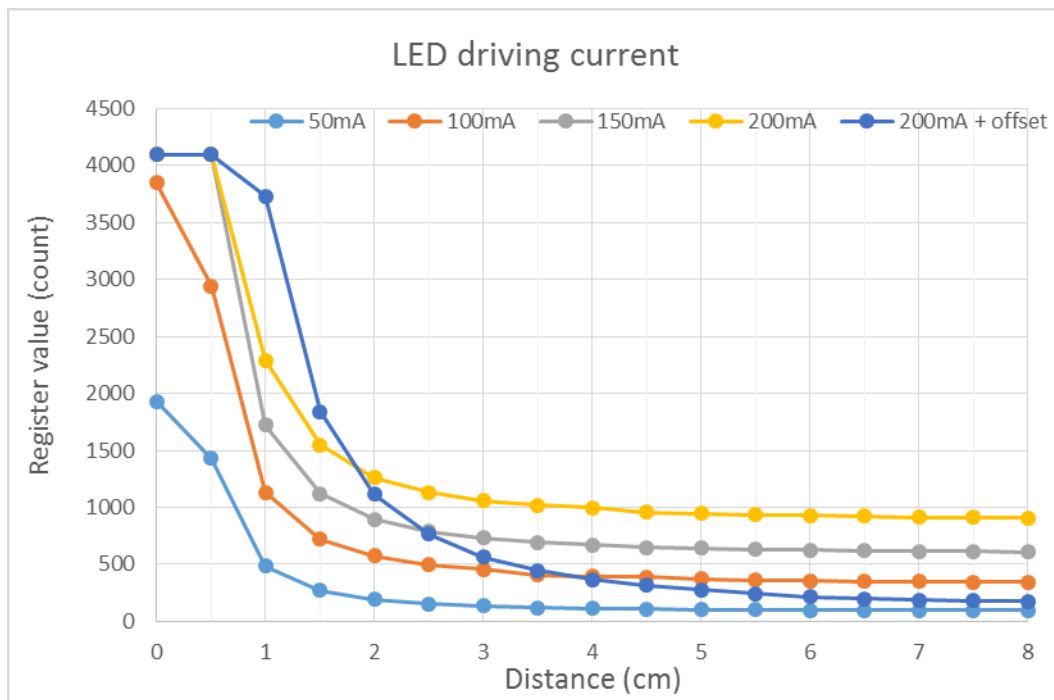
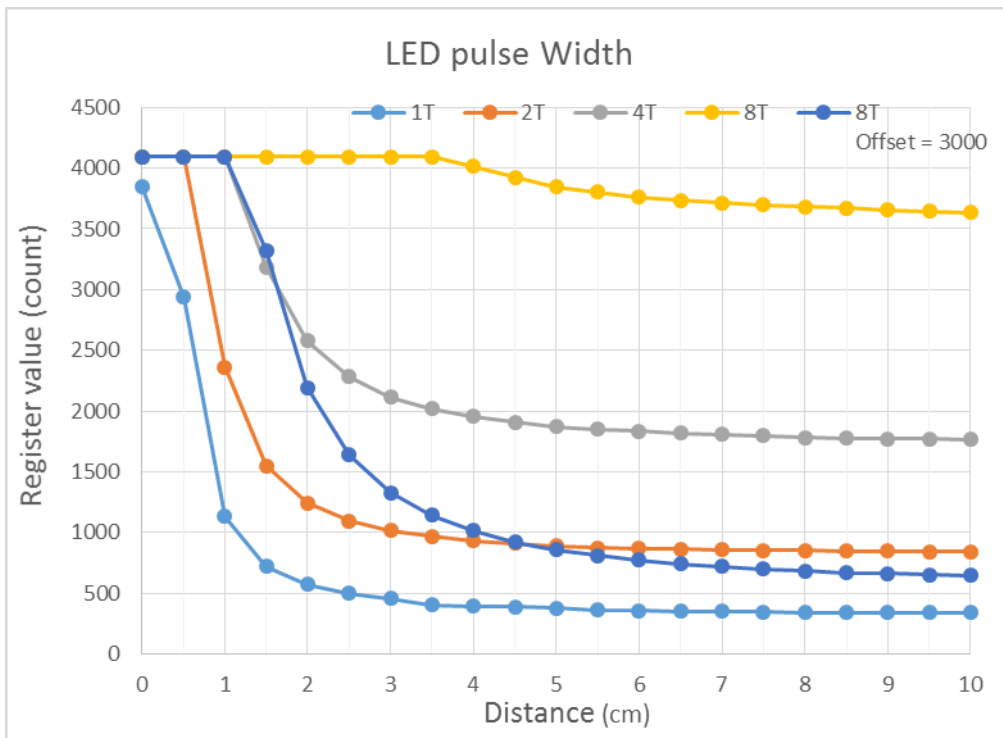

Figure 8. Adjusting the LED driving current
Figure 9. Adjusting the LED pulse width
- The register LED_CTRL has two functions, the IR LED driving current controlled by bits 6 and 7, respectively, and the IR LED pulse width adjustment of bit 0~5. Figure 8 and Figure 9 show the PS response curve of different IR LED driving current and pulse width, respectively.
- PS_OFFSET_L and PS_OFFSET_H are used to compensate background noise (including cross talk). Figure 8~10 shows the effect of adjusting the PS_OFFSET value. The set value is recommended to be slightly lower than the measured background noise value. If the setting is higher than the background noise value, the PS maximum detection distance will be shortened.